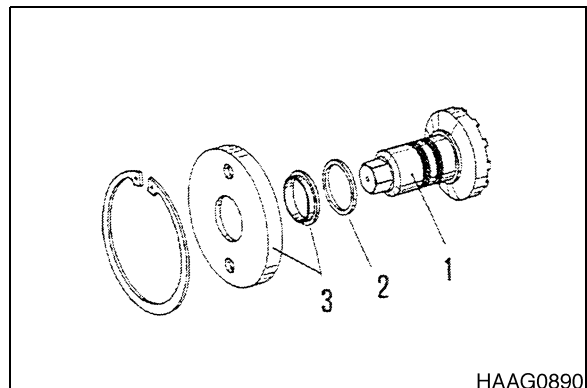

Figure 117
1. Figure 117 shows the components of the Special Tool.
- (S) Hook spanner - 5870 401 085 (1)
- (S) Spacer - 5870 912 017 (2)
- (S) Centering disk (compl) - 5870 912 009 (3)